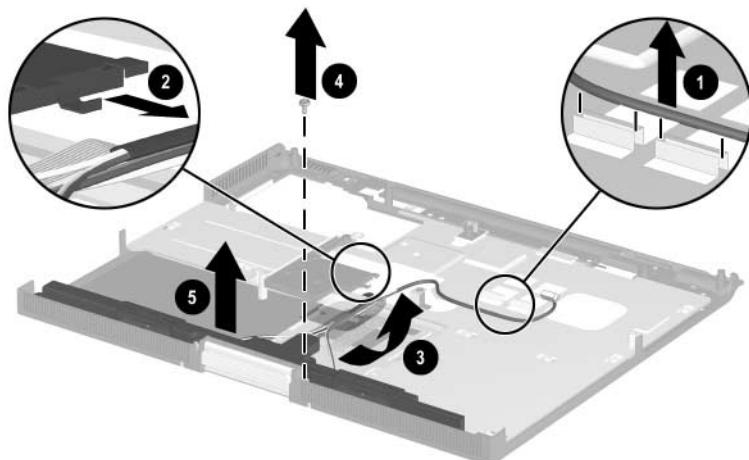

Figure 5-25. Removing the Speaker Assembly
3. Route the drive activity light/battery power light cable and speaker cable out of the retaining clips in the top cover **1** and **2** (Figure 5-25).